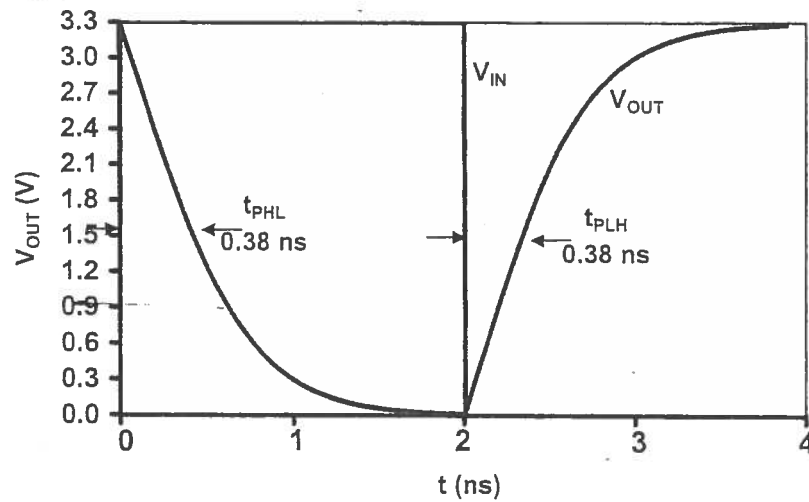

Figure 9.86.
b. The SPICE simulation results of Figure 9.86 show that the propagation delays are 0.38ns with four buffers.